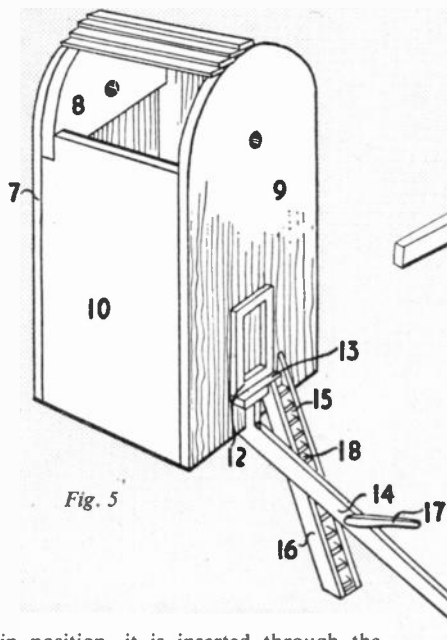

Fig. 5
At this stage the doorway (12) and step (13), together with pieces 14 and 17, can be added (Fig. 5.) The stepladder which consists of two sides (pieces 15 and 16) and the steps (18) can also be assembled and glued in place. Glue the spindle (20) into the floor (11), and the spindle is now placed in position in the hole in piece 6.